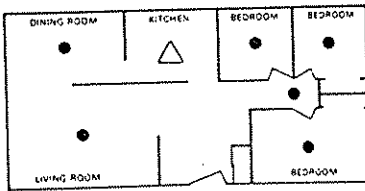
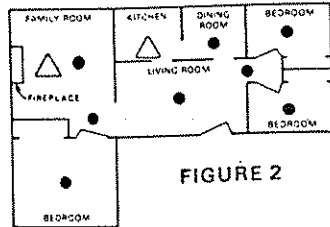

FIGURE 1
FIGURE 2
- Do install a smoke alarm in the hallway outside of every bedroom area. If the bedroom has a door, there must be a smoke alarm inside and outside the bedroom. See figure 1. If your home or residence had two bedroom areas, a smoke alarm must be placed outside the second bedroom area, and inside the bedroom(s) if they have doors. See figure 2.